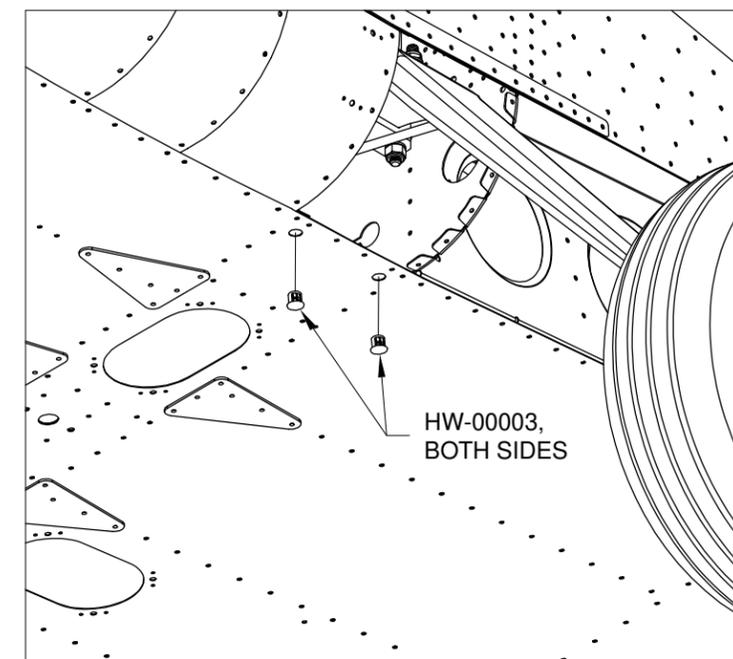

FIGURE 2: DOME PLUG INSTALLATION
Step 3: Install HW-00003 Dome Plugs as shown in Figure 2.